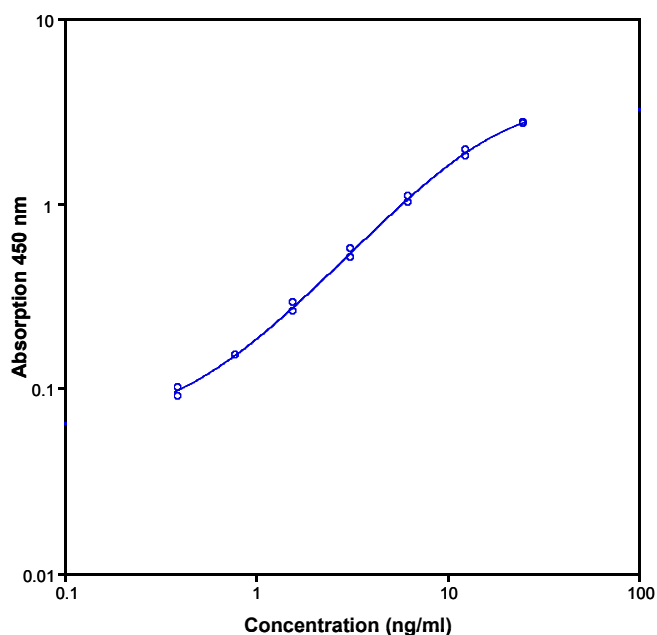

Fig. 8 Representative standard curve for Human MMP9 ELISA Kit. Human MMP9 was diluted in serial 2-fold steps in Assay Buffer (1x).
- A representative standard curve is shown in Figure 8.